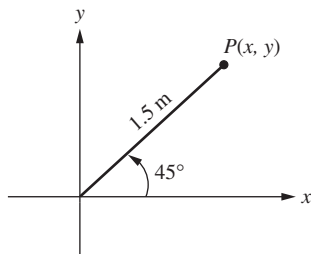

Figure P3.10 A one-link planar robot for problem P3-10.
- 3-10.** A one-link planar robot moves in the x - y plane as shown in Fig. P3.10. For the given l and θ , find the position $P(x, y)$ of the tip.